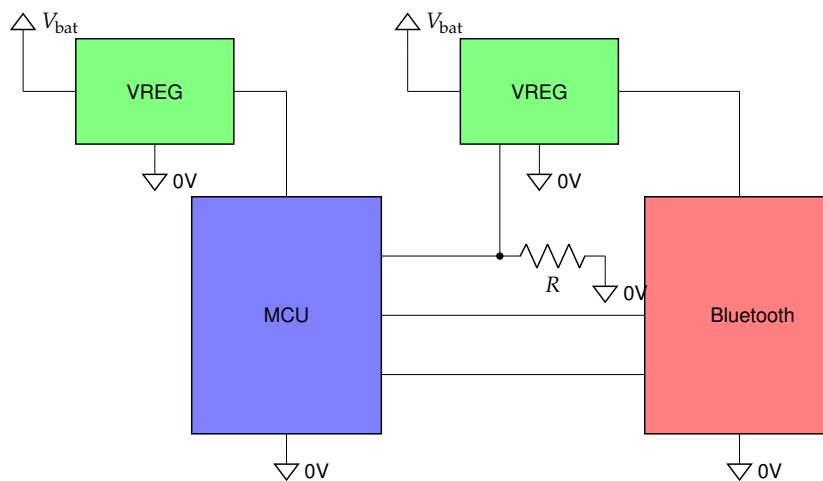

Figure 5.10: A Bluetooth module interfaced to a MCU using a UART.
5. Why is the Bluetooth module in Figure 5.10 not reset when its power is cycled using the regulator U₃?
6. What is the purpose of the resistor in Figure 5.10?
7. What value do you recommend for the resistor in Figure 5.10? State assumptions.
8. Turning off the voltage regulator U₃ in Figure 5.10 does not result in the expected energy saving. Why?